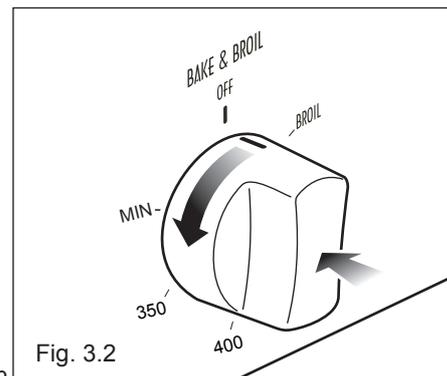

Fig. 3.2
2) Turn the knob to the oven burner (oven burner temperature adjustment range is MIN to MAX, the knob can be turned to any position in this range for ignition, Fig.3.2), the oven automatically ignites, and it lights within 5.5 seconds; If it can't be lighted for the first time, ignite it again after 12 seconds, and it lights within 5.5 seconds; If it can't be lighted after repeating for 3 times, you need to reset the knob to OFF and then turn it on again.